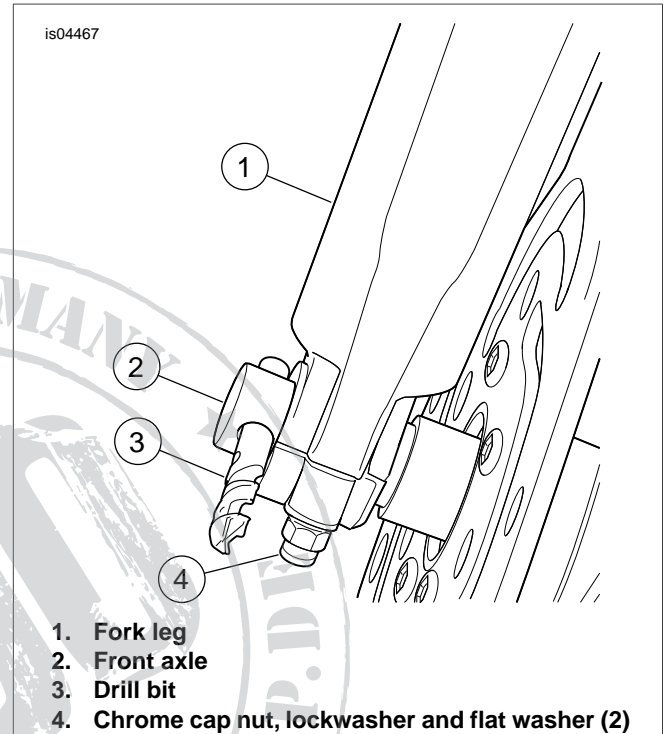

Figure 1. Align the Front Wheel
5. **For 2000 and later models:** See Figure 1. Insert a 7/16 inch drill bit (3) into the hole in the front axle (2). Pull the right-side fork leg (1) so that it just contacts the drill bit.